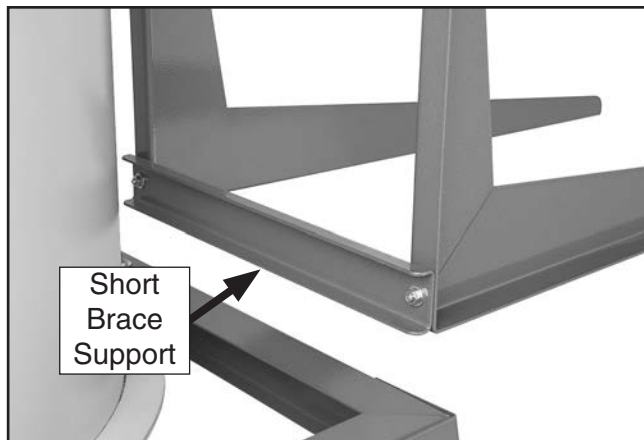

Figure 32. Short filter brace support attached.
31. Attach the filter L-braces to either side of the outlet port on the blower housing with (6) $\frac{5}{16}$ "-18 x 1" hex bolts, (12) $\frac{5}{16}$ " flat washers, and (6) $\frac{5}{16}$ "-18 hex nuts.
32. Secure the short filter brace support to the back of the filter L-braces with (2) $\frac{3}{8}$ "-16 x $\frac{3}{4}$ " hex bolts, (4) $\frac{3}{8}$ " flat washers, and (2) $\frac{3}{8}$ "-16 hex nuts (see **Figure 32**).